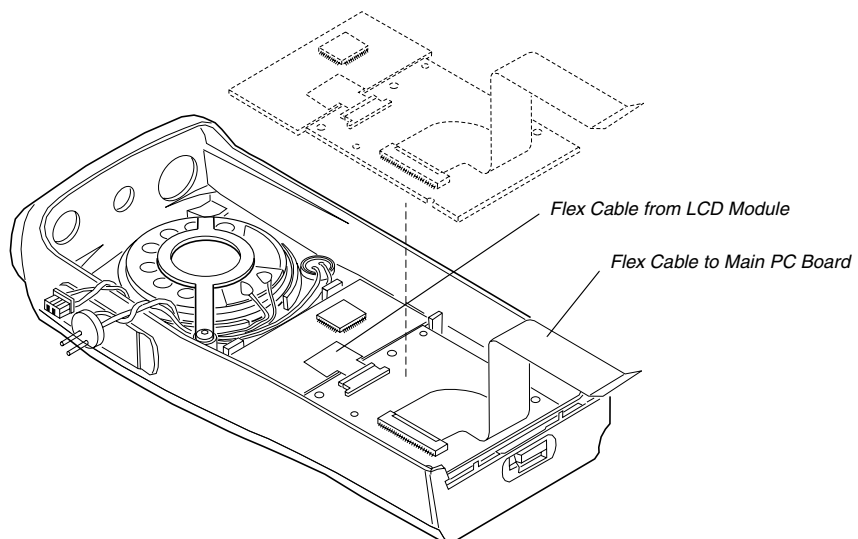

Figure 6-15. LCD/Keypad Board Re-assembly
1. Attach the flex cable from the LCD module to the keyboard, if not already attached (Figure 6-15).
5. Install the LCD/Keypad sub-assembly into the housing (Figure 6-15).
7. Bend the flex cable as shown (Figure 6-15)